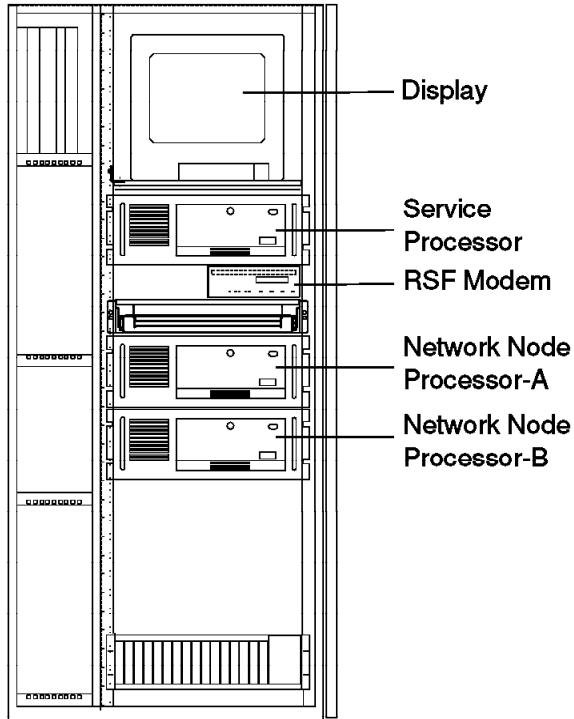
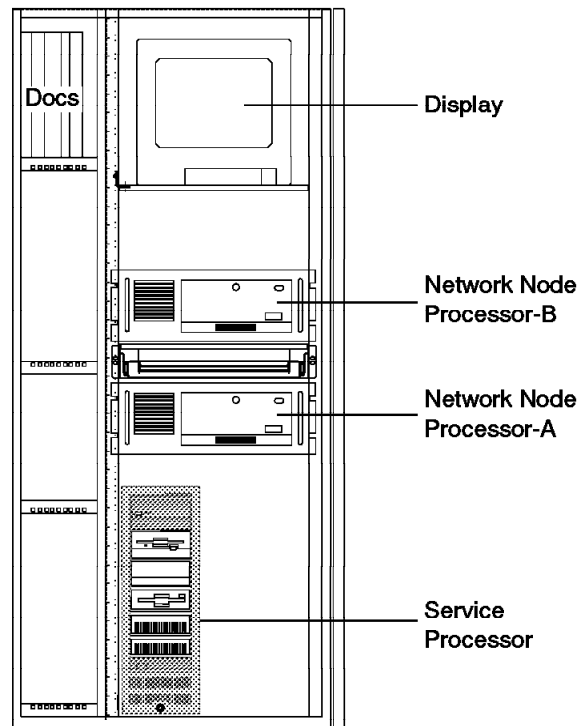

Figure 1. NNP-A installed with SP 7585.
Figure 4. NNP-A installed with SP 9585.
- 2. Locate the location to install the NNP-A in the Controller Expansion (Refer to Figure 1 on page 6 to Figure 4 on page 6).